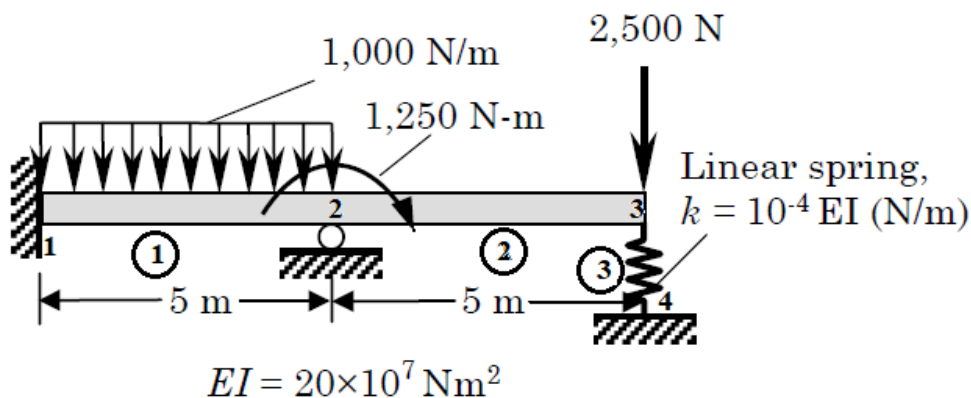

Figure 5
- 3) For the beam shown in Figure 5, subjected to distributed load on element 1. Determine the deflection and rotation and the reactions in each element. Use the equivalent load replacement method. (10)